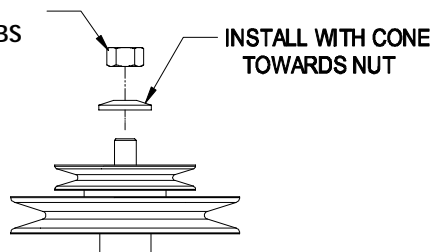

FIGURE 4
- Install the double sheave (Item 23) onto the right spindle shaft. Install the spring disk washer and nut removed in Step e). Make sure that the spring disk washer cone is installed towards nut (See Figure 4). Torque the sheave nut to: